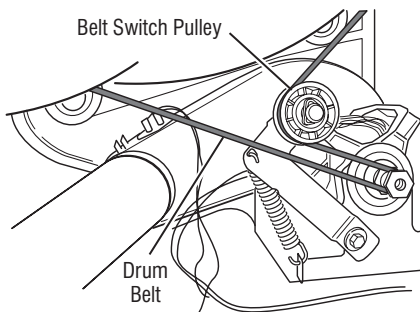

Figure 7 - Slowly remove drum belt.
7. Check the drive motor and belt switch (gas dryer only). Slowly remove the drum belt from the spring-loaded belt switch pulley, gently letting the belt switch pulley down. See figure 7.